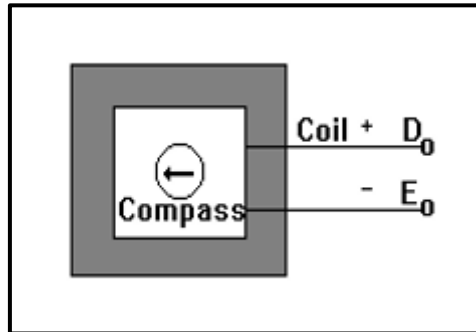

Figure 6.1
1. Make the connection shown in Figure 6.1: